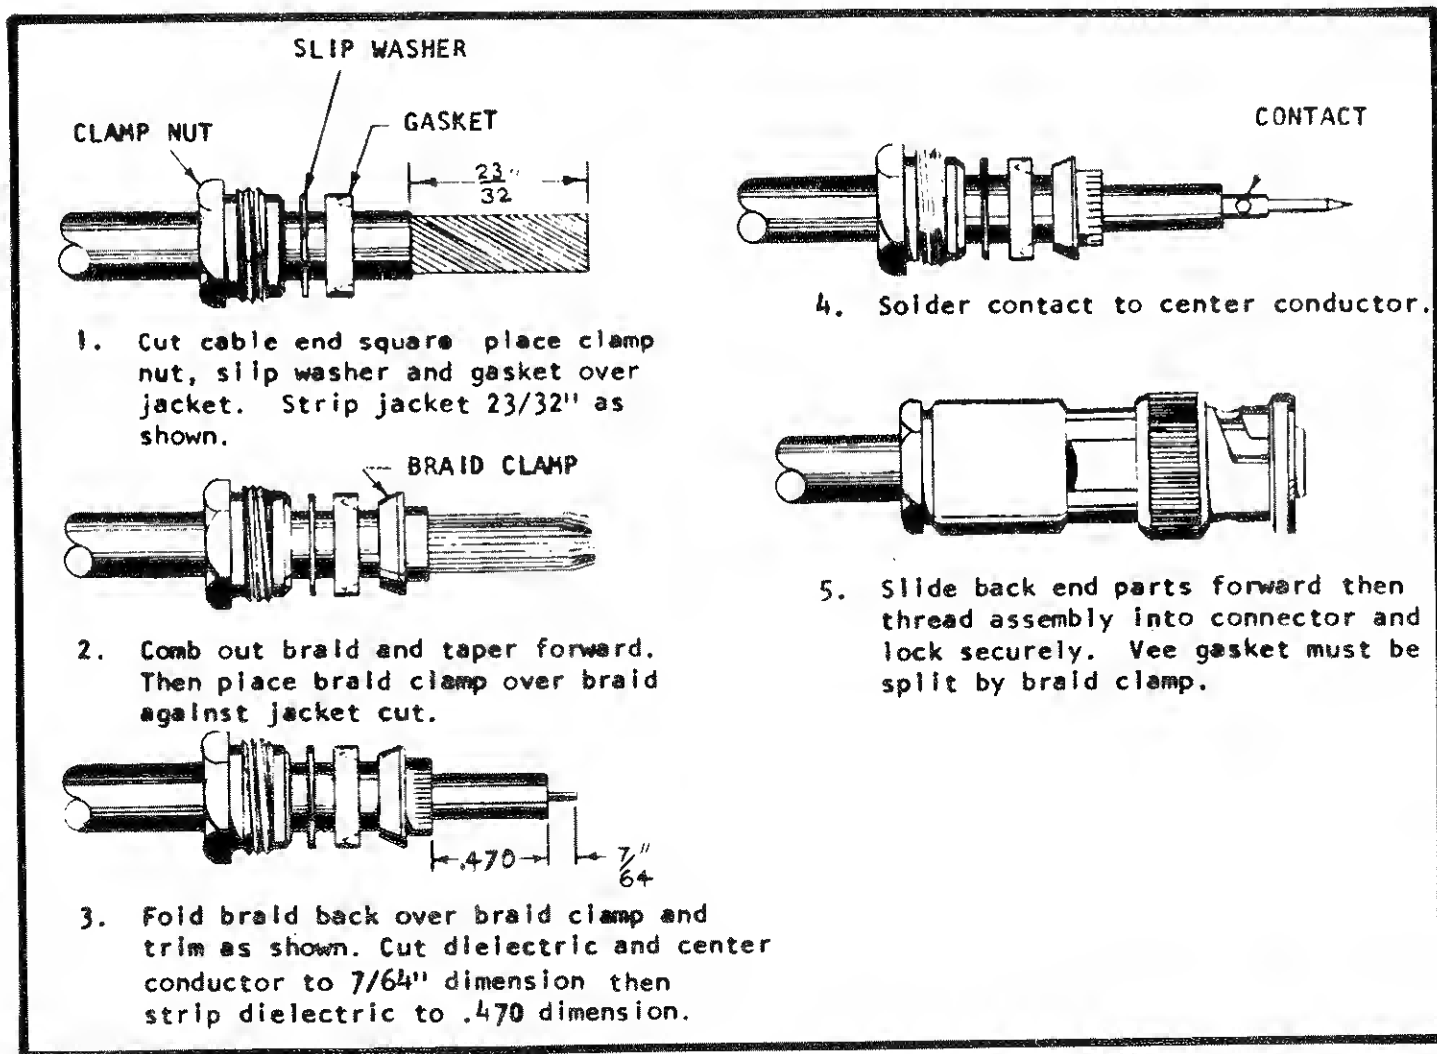

FIGURE 20. Cable Assembly for Mating MHV Connector.
c. Assemble the cable as shown in Figure 20.